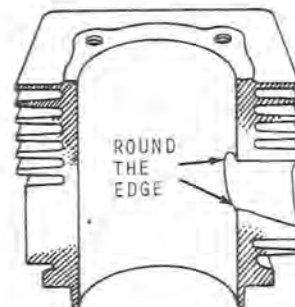

Fig. 15-Rounding Edges of Ports
9. After reboring, remove any burrs that may have formed at edges of ports. Use a pencil grinder or emery cloth and just round the edges of the ports, Fig. 15.